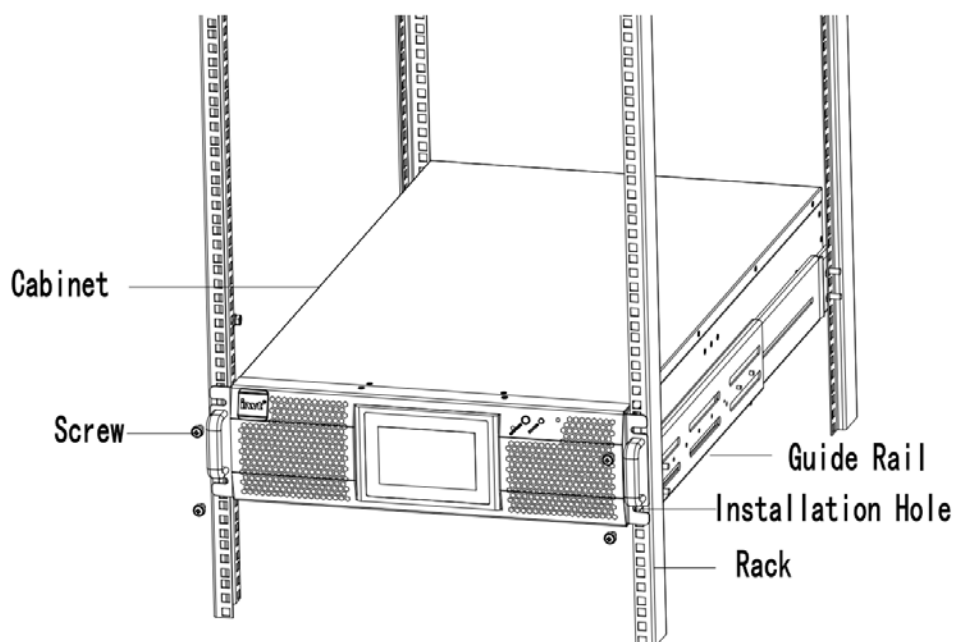

Fig.3-3 Rack Mounted Installation
(1) Install the guide rail
(2) Put the UPS and battery cabinet on the guide rail, fix the units to the service rack, shown as Fig.3-3.